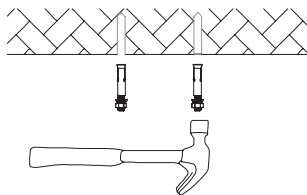

Fig. 4
2. Fix screws into the holes with a hammer. (Fig. 4)